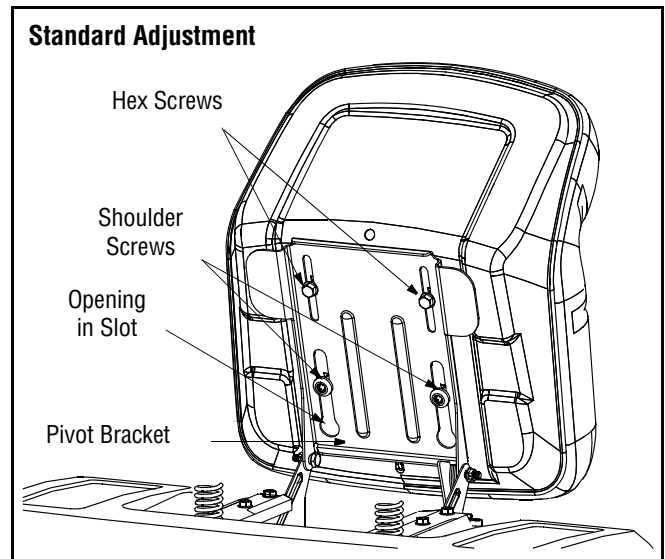
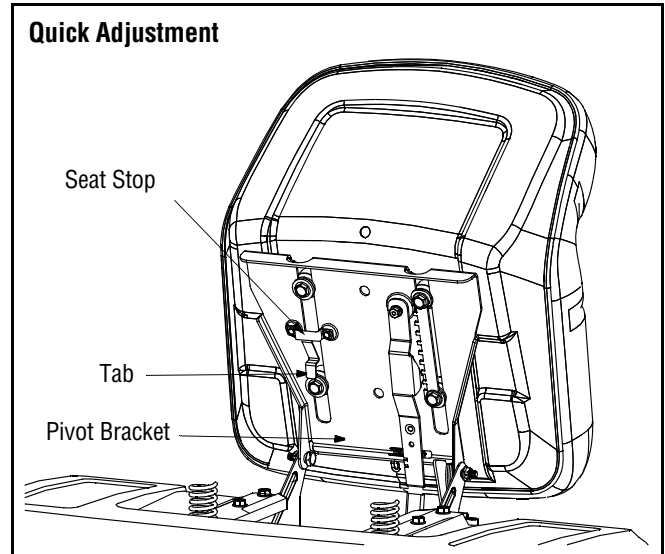
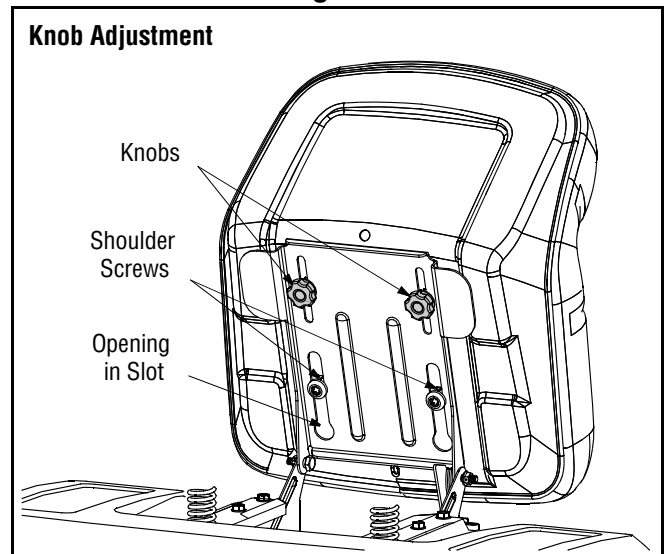

Figure 4
Figure 5
Figure 6
Refer to Figure 4, Figure 5 and Figure 6 to identify your tractor's seat style and follow applicable instructions below.
1. Position the shoulder screws (found on the base of the seat) inside the slot openings in the seat pivot bracket. Figure 4.
3. Select desired position for the seat, and secure with the two hex screws removed earlier. See Figure 4.
**NOTE:** If your seat was shipped mounted backwards on the seat pivot bracket, pull out the tab found on the seat stop and hold it open while sliding the seat off the seat pivot bracket. See Figure 5.
2. Slide seat in until front seat spacer engages the seat stop. See Figure 5.
1. Position the shoulder screws (found on the base of the seat) inside the slot openings in the seat pivot bracket. Figure 6.
3. Select desired position for the seat, and secure with the two knobs removed earlier. See Figure 6.